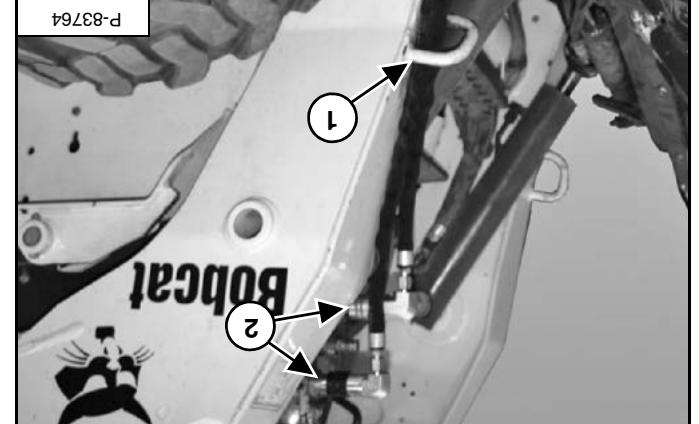

Figure 47
NOTE: Check that the attachment hydraulic hoses are not twisted or contacting any moving parts of the loader or attachment. (See Figure 47.) For proper adjustment.
[Figure 47]. (See Hydraulic Quick Couplers on Page 48.) If your loader has an earlier version hose guide, route the attachment hydraulic hoses through the hose guide (item 1). Connect the quick couplers to the loader (item 2)